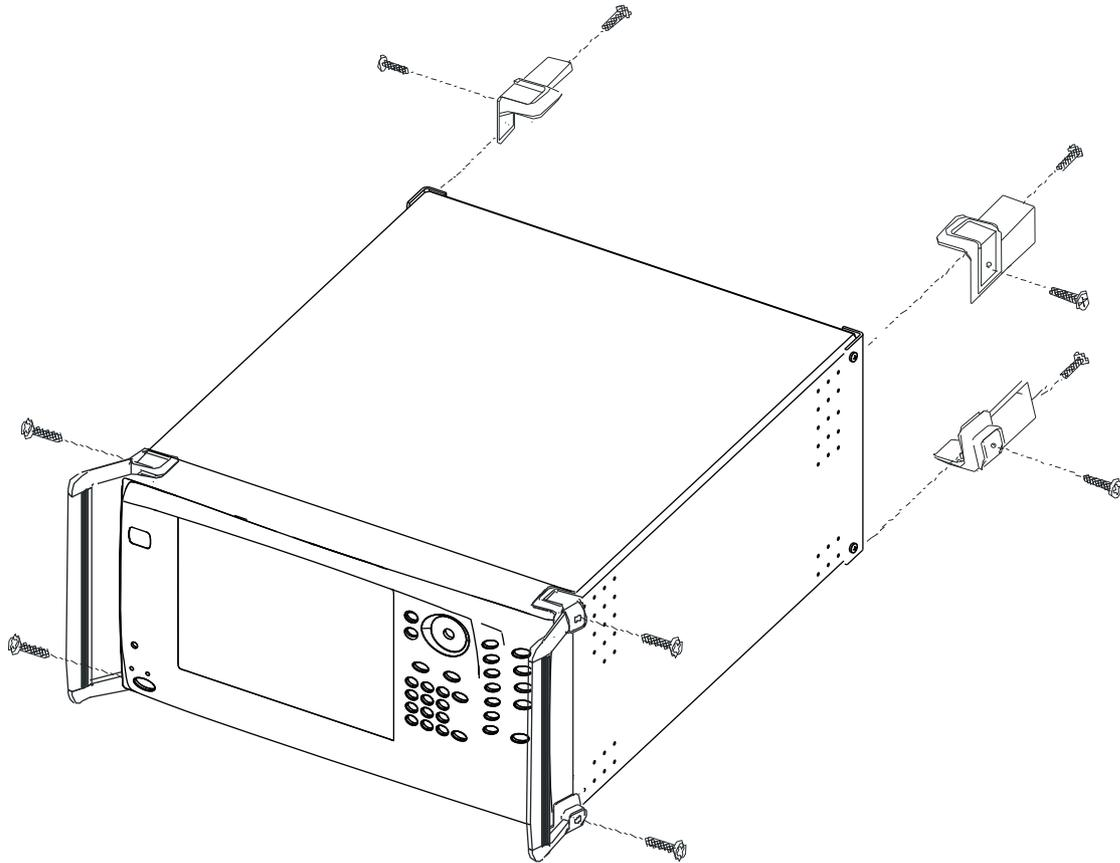

Figure 2-1. Removing Instrument Handles and Feet for Rack Mount
3. Using a Phillips screwdriver, remove the two front panel handles and the four feet at the rear of the instrument (see Figure 2-1). Save the screws for later use.